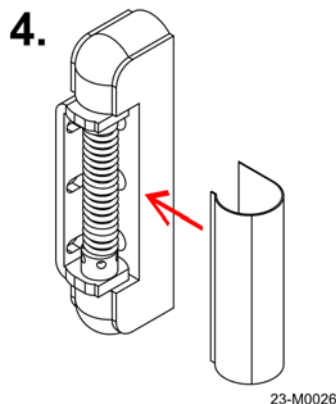

Figure 5-4
4. Install the hinge cover by placing it over the hinge and pushing until it locks in, refer to Figure 5-4.